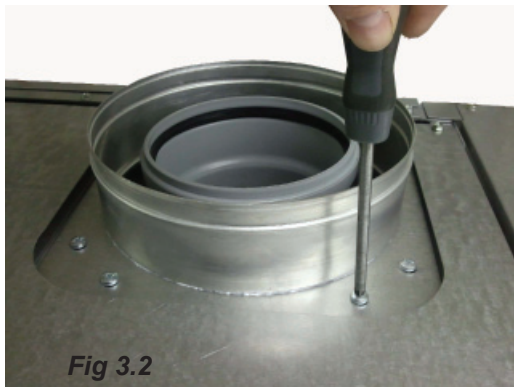

Fig 3.2
- Screw metal air collar onto the top of the flue socket with the 8 screws (supplied) (fig 3.2)